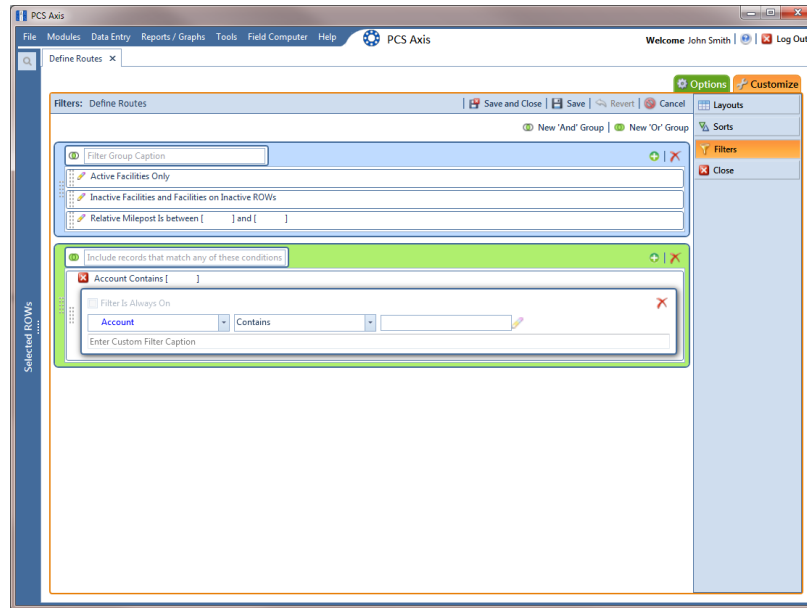

Figure 8-68. Filters
- 4 Click  **New 'Or' Group** to open a filter properties group box (Figure 8-68).